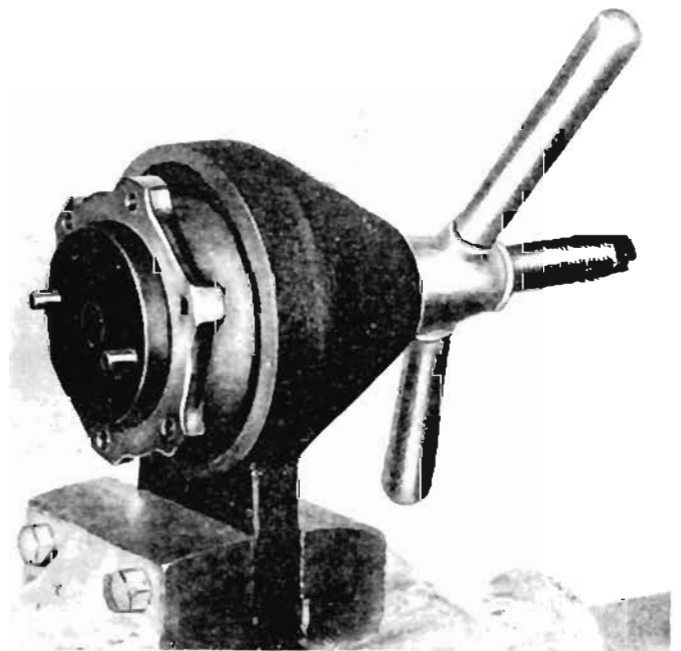

Fig. 4 Extracting outer ring of hub bearing from housing.
- (iv) Extract the bearing outer ring from the housing, as shown in Fig. 4, after first tapping out the oil seal which should be renewed during re-assembly.
- (ii) Draw the bearing outer ring into the housing by using the same tool as shown in Fig. 4, and install a new oil seal (Fig. 7).